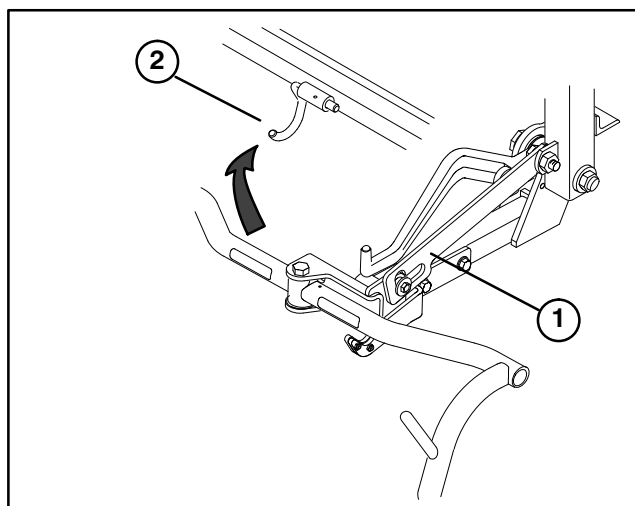

Figure 11
- C. Lift up on the slotted link and rotate the pull frame into the wire hook (Fig. 11).